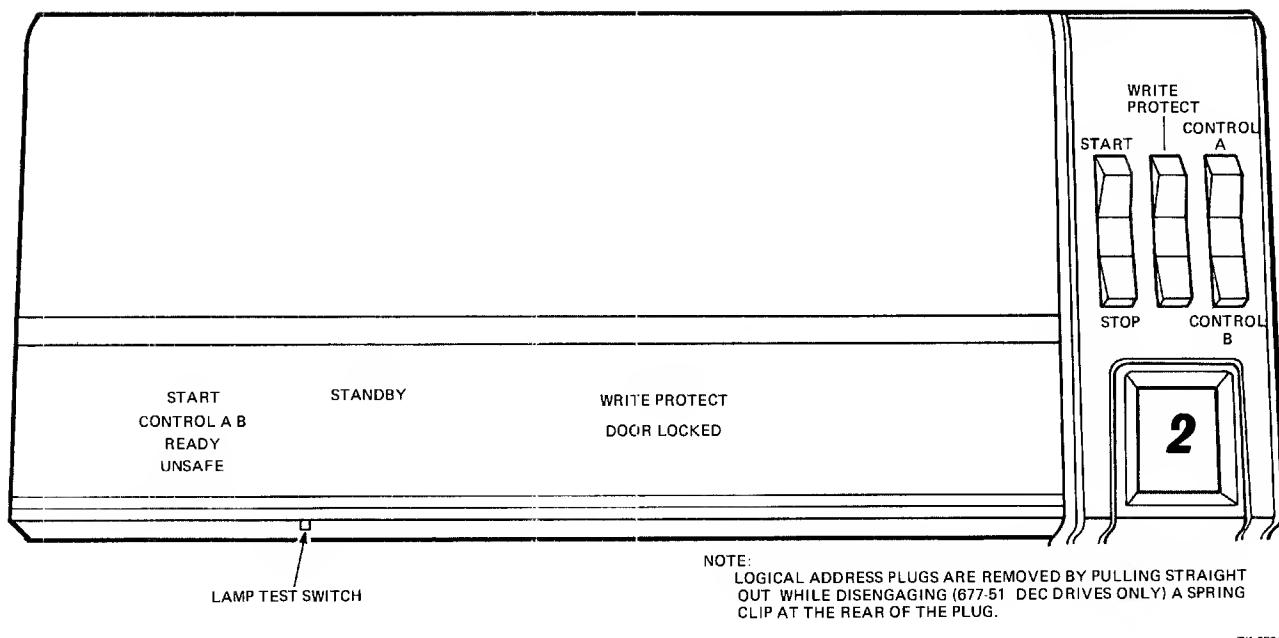

Figure 5-18 RP05/RP06 Operator Control Panel
Functions of individual controls in the drive's operator panel (Figure 5-18) are described in the following paragraphs.
5.5.2.2 Operator Indicators – Functions of individual indicators in the drive's operator panel (Figure 5-18) are described in the following paragraphs.